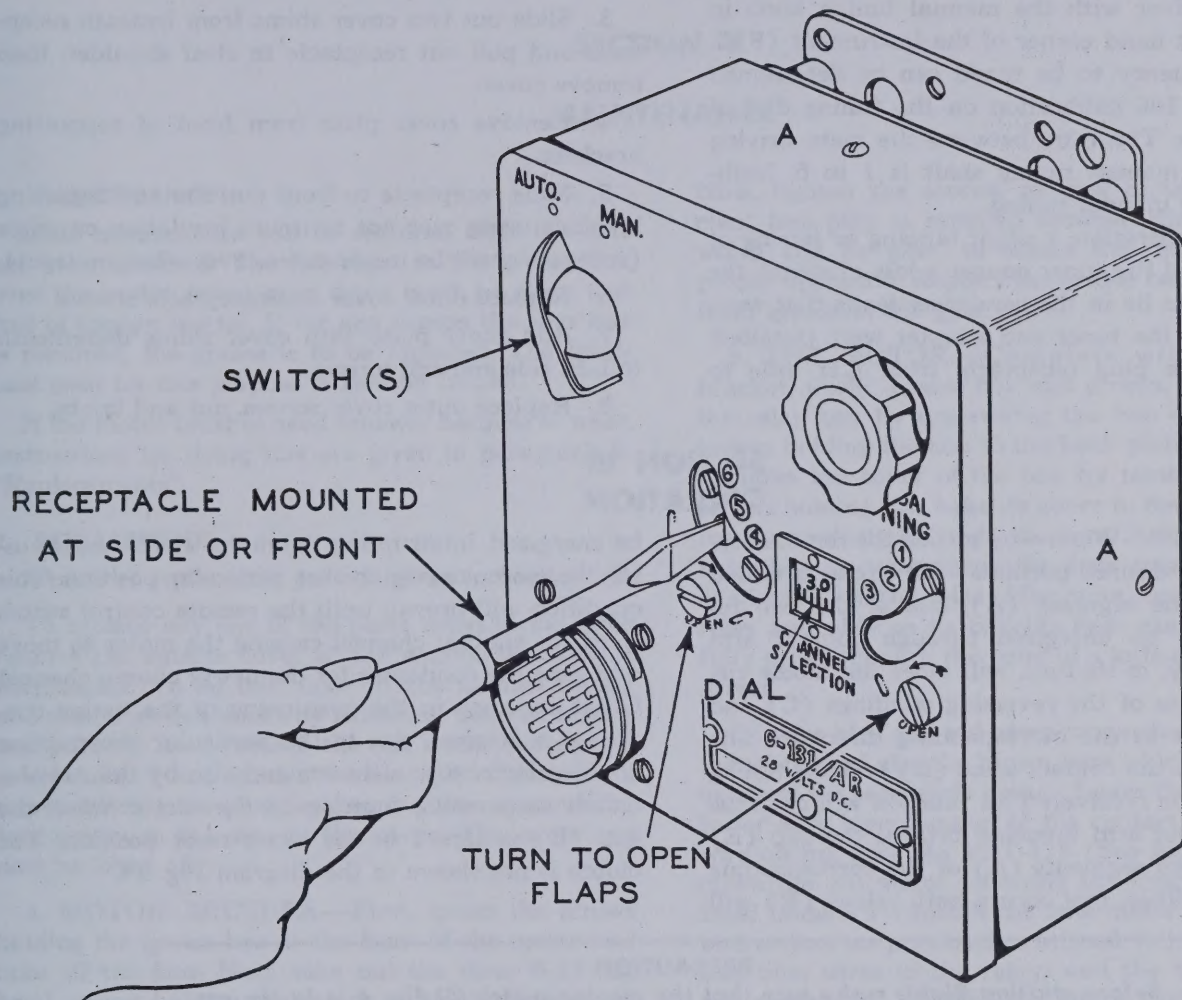

Figure 21 — Adjustment of Tuner
3. (FIG. 21) Remove outer cover by removing four screws A. Then place the dial so that the 0 and 100 marks coincide with the end positions of the tuning condenser of the receiver, i.e. fully open and fully
- (2) Put on head set and switch on the power.
(3) (FIG. 21) To set the automatic tuner, set the master switch (S) to the "AUTO" position. Then open the flaps which cover the heads of the reset shafts by turning the large slotted heads which operate these flaps. With a screw driver adjust the reset shaft the number of which corresponds to the desired number on the remote control switch. Continue the adjustment until the signal comes in satisfactorily.
(4) To adjust the tuner for additional channel frequencies (Maximum 6) reset the remote control switch to the desired new number and adjust the corresponding reset shaft as described under (3).
(5) Any of the pre-selected channels can now be tuned in by turning the remote control switch to the corresponding number. The automatic tuning mechanism will always place the tuning condenser accurately in the correct position.
b. **FOR MANUAL OPERATION.**—Set the switch (S) in the upper left hand corner of the Automatic Selector Mechanism to the position marked "MAN". Tune the receiver with the manual tuning knob in the upper right hand corner of the instrument (FIG. 21). The frequency to be tuned can be determined with the 0 to 100 calibration on the tuning dial of the mechanism. The ratio between the main driving shaft and the manual tuning shaft is 1 to 6, facilitating accurate manual tuning.
CIRCUIT.—The Automatic Selector Mechanism (Spot Tuner) embodies six selector discs with contact segments (A) separated by gaps (E). The angular position of these gaps controls the setting of the receiver's tuning condenser and each selector disc can be individually adjusted for such setting. This is done by adjusting the corresponding reset shaft as is outlined in Section II of this manual and shown in Fig. 21. The circuit also contains the contact arms (B) which slide over the segments (A). The arms are mounted on a common shaft (D) driven by a motor through a worm and worm gear. The direction of rotation of the motor is determined by